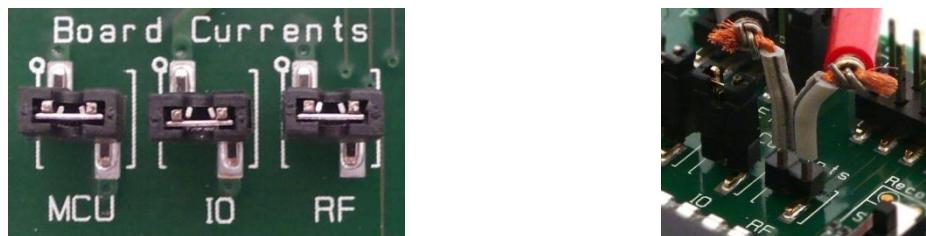

Figure 18 – Current measurement jumpers
SmartRF TrxEBoard has three current measurement jumpers, MCU\_PWR, IO\_PWR and RF\_PWR, as shown in Figure 18. By removing one of the jumpers, an ammeter can easily be connected to the board and perform current consumption measurements on the different segments of the EB. Similarly, a separate, regulated power supply for the EM can be connected. Table 11 shows an overview of what onboard components are connected to which power segment.
**NOTE:** On SmartRF TrxEBoard revision 1.3.0, the “IO” and “RF” labels in the silk print are switched around. For all revisions, IO and RF current should be measured on the jumpers indicated by the silk print in Figure 18. See chapter 8 for details about EB revision 1.3.0.